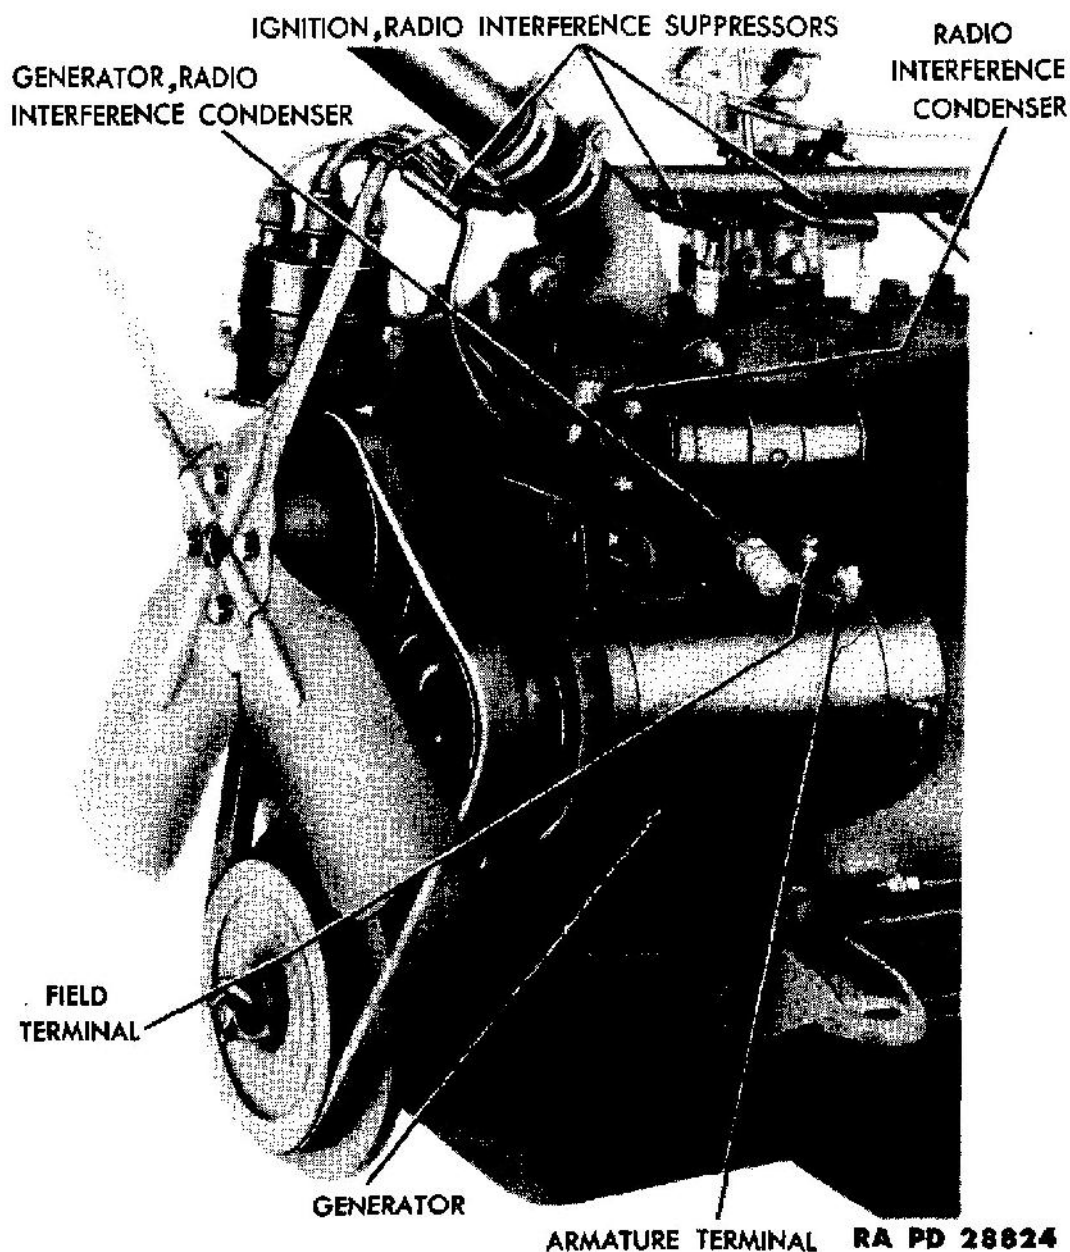

Figure 37 — Generator
92. GENERATOR (fig. 37).
a. **Description.** The generator rating is 7 volts and 40 amperes and its capacity is 275 watts. The generator output is controlled by a regulator mounted on the left side of the engine compartment (fig. 39). The generator is driven by a V-belt as shown in figure 37.